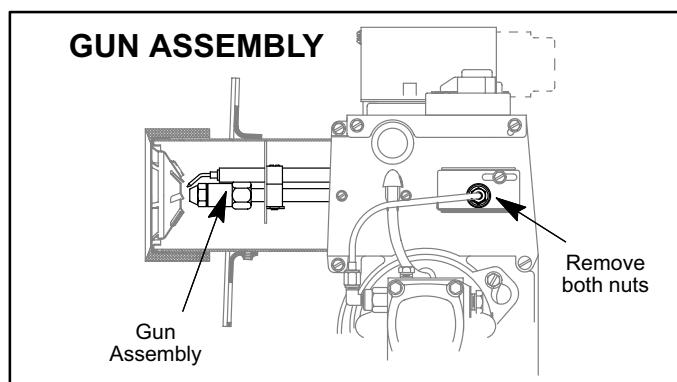

FIGURE 23
- 3 - Remove nut connecting oil line to gun assembly oil line. See figure 23.